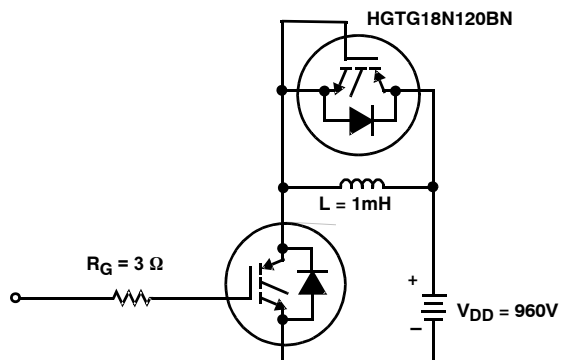

Figure 18. Inductive Switching Test Circuits
6. Values for two Turn-On loss conditions are shown for the convenience of the circuit designer. E_{ON1} is the turn-on loss of the IGBT only. E_{ON2} is the turn-on loss when a typical diode is used in the test circuit and the diode is at the same T_J as the IGBT. The diode type is specified in Figure 18.